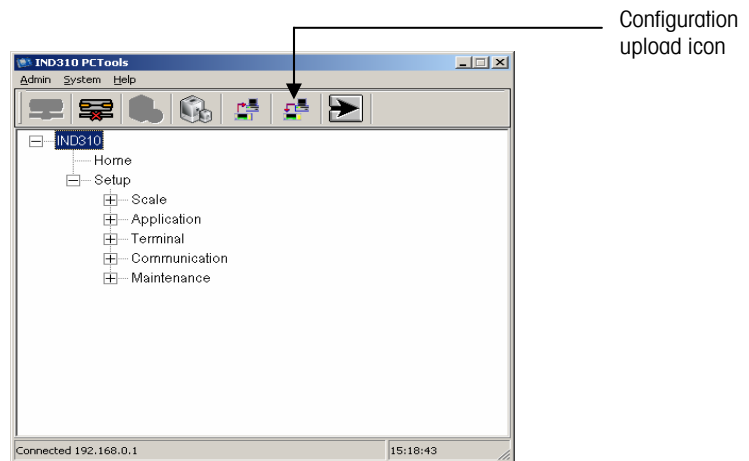
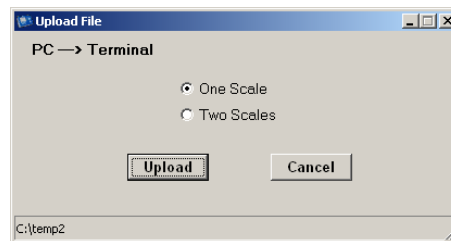

Figure B-29: Configuration Upload
Figure B-30: Upload File Dialog Box
1. Click on the configuration upload icon (Figure B-29) to save the current scale configuration. The Download File dialog box displays (Figure B-30).
6. The Upload File dialog box displays again (Figure B-30).